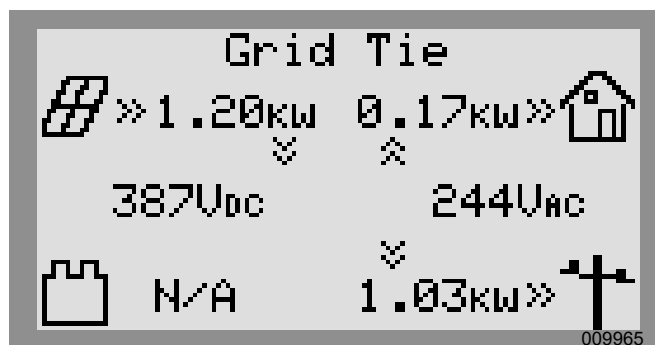

Figure 3-3. Selecting Operational Modes (1 of 4)
1. See **Figure 3-3**. While viewing the home screen press the center button.